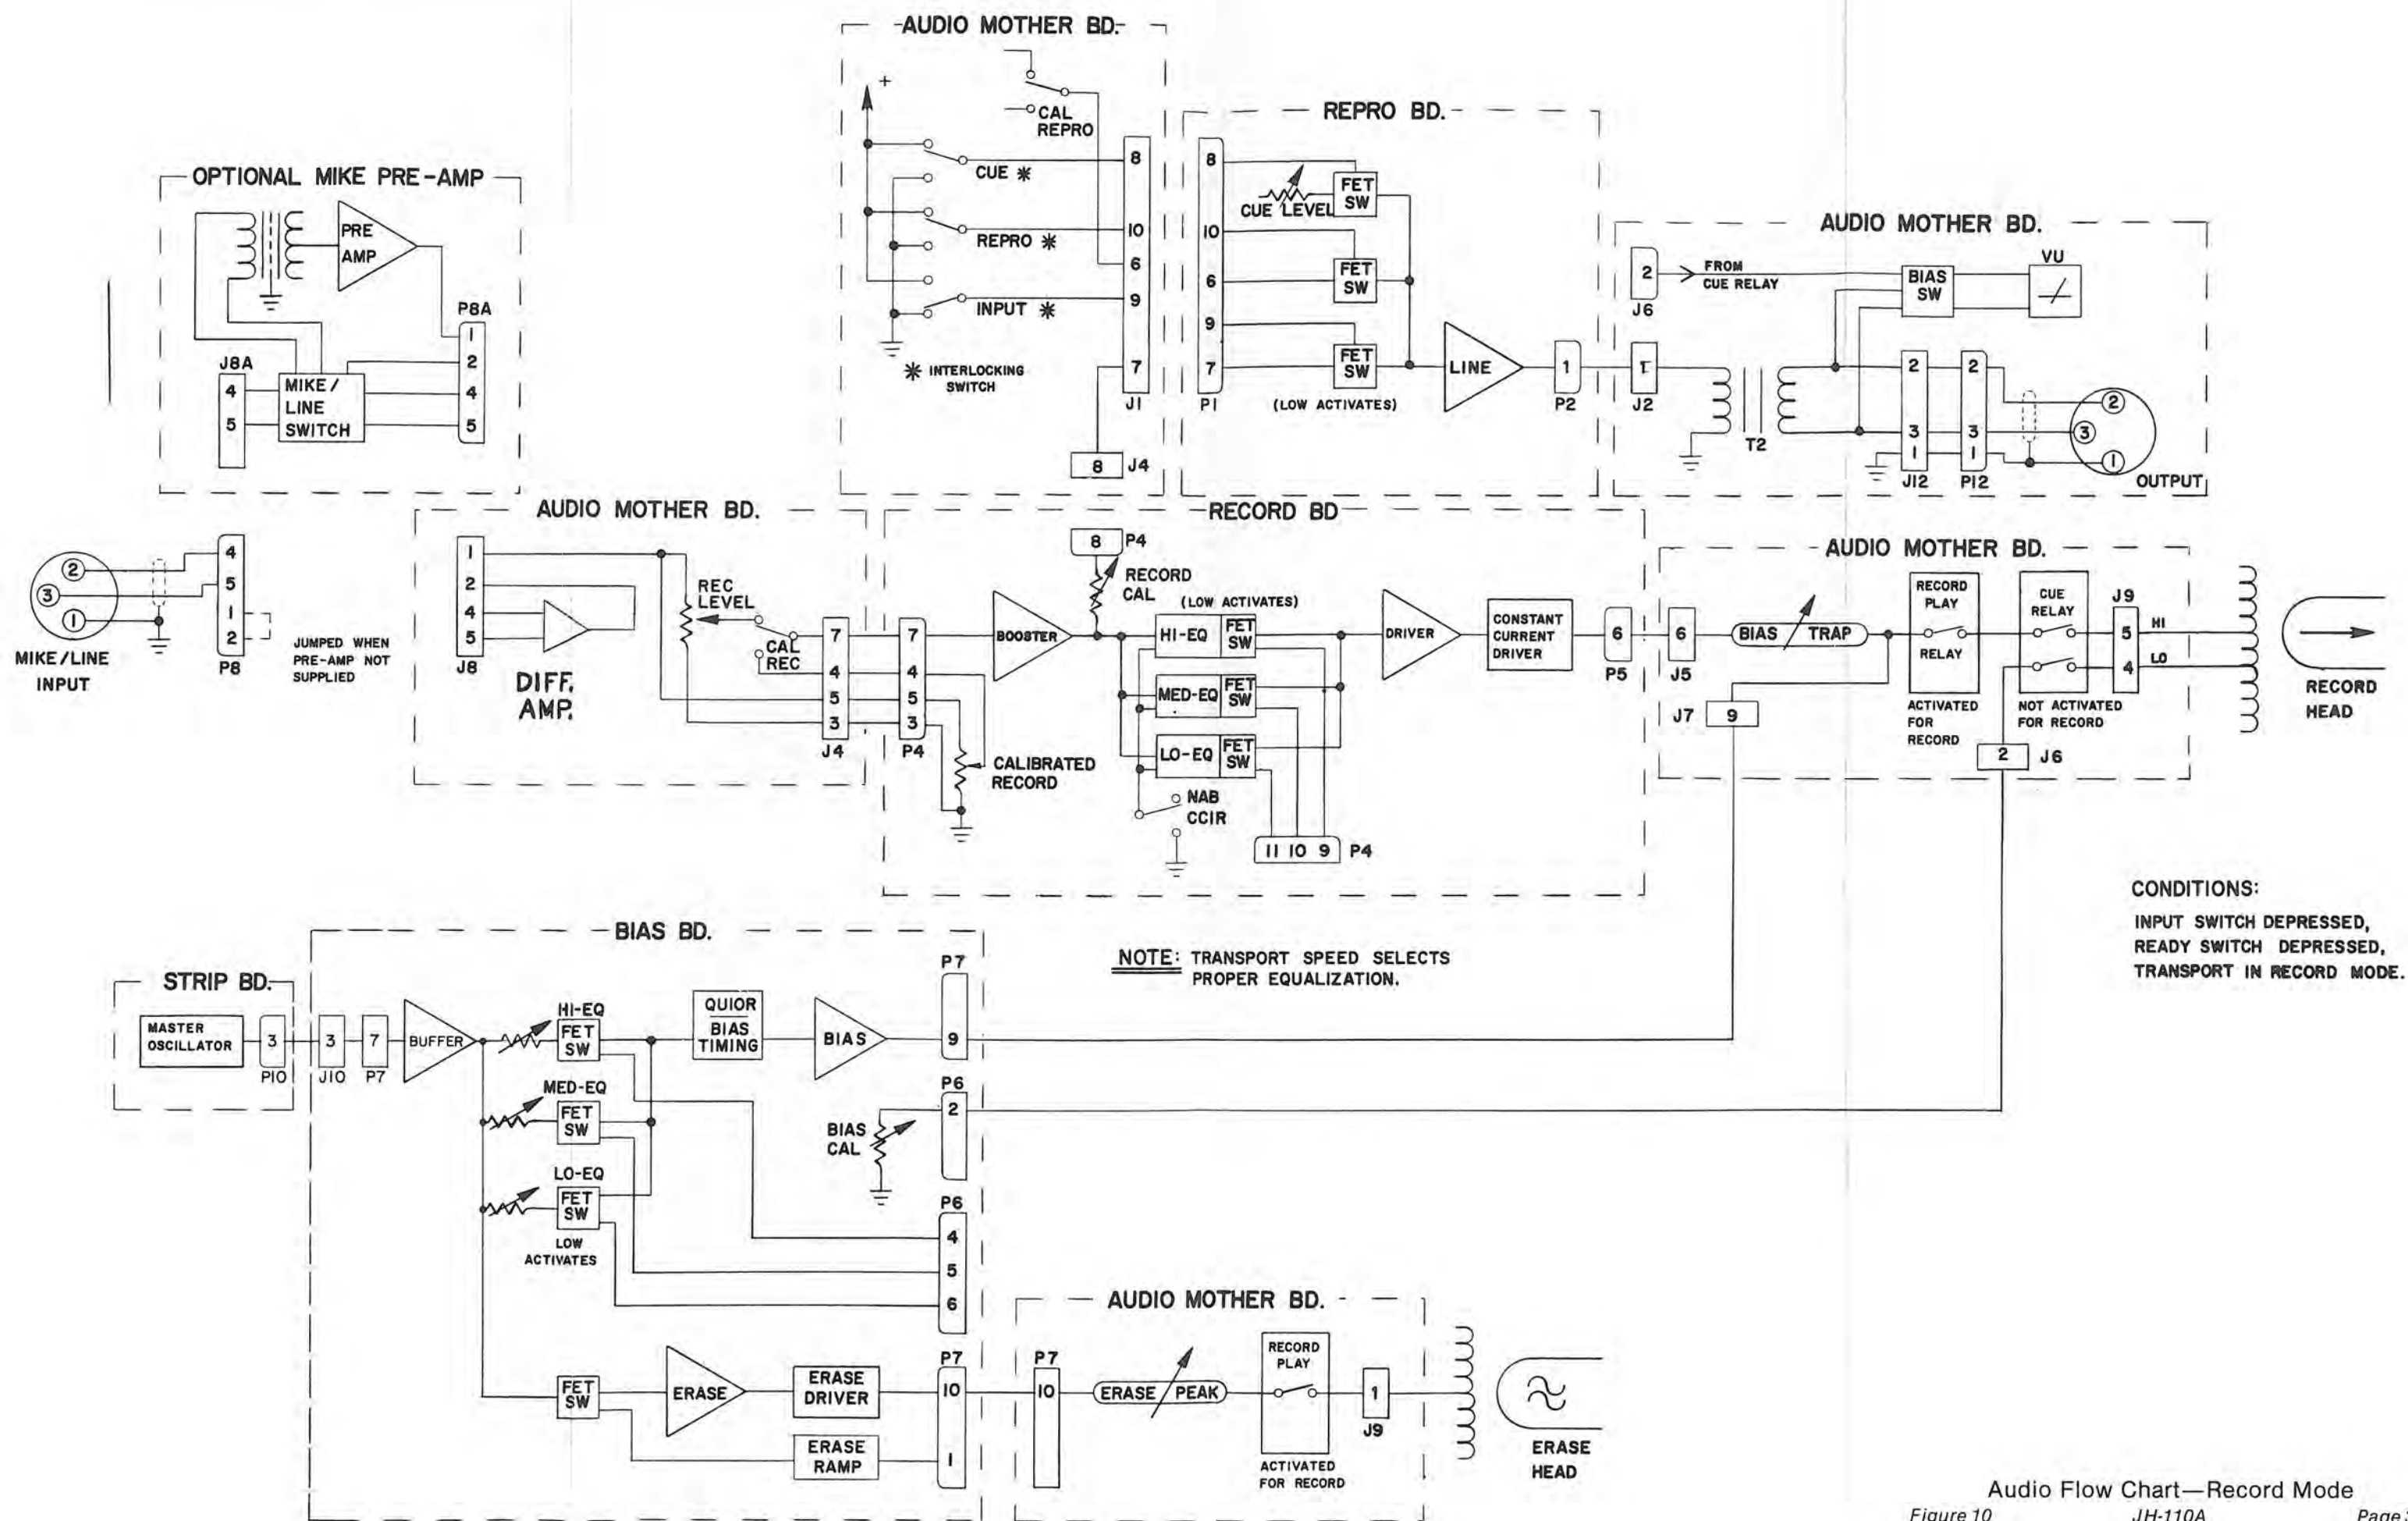

Figure 10 Audio Flow Chart—Record Mode
3.1 AUDIO FLOW CHARTS *(See Fig. 10, Page 3-3, and Fig. 11, Page 3-5)*
These flow charts show the heart of the recording system. This is WHAT THE COMPLETE SYSTEM ACCOMPLISHES. Figure 10 shows all of the AUDIO FUNCTIONS which occur during the RECORD mode, and Figure 11 shows all of the AUDIO FUNCTIONS which occur during the REPRODUCE, the INPUT, and the CUE modes.